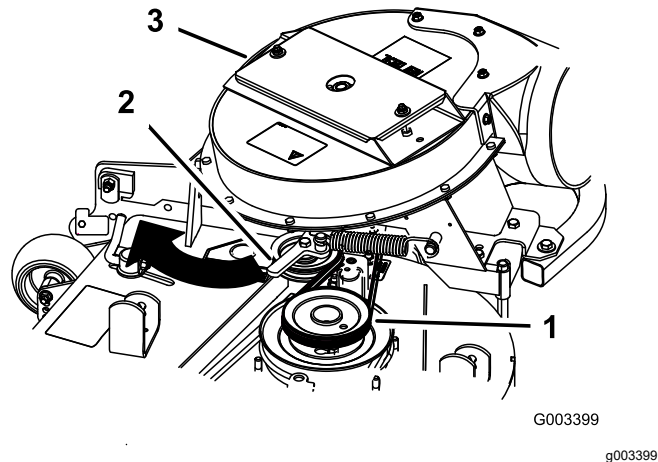

Figure 17
- Pull the spring-loaded idler pulley back and route the belt around the mower-deck pulley (Figure 17).
Note: Ensure that the belt is routed around the blower pulleys correctly (Figure 17).